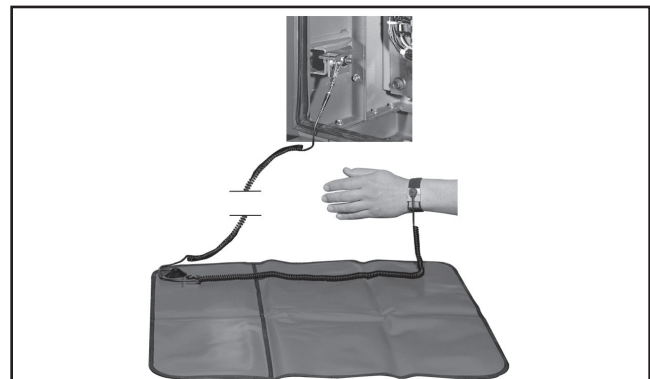

Figure 6. The SCS 8501 Field Service Kit.
- STEP 4.** Place the radio tray on a static dissipative mat or static grounded workbench. See Figure 6.